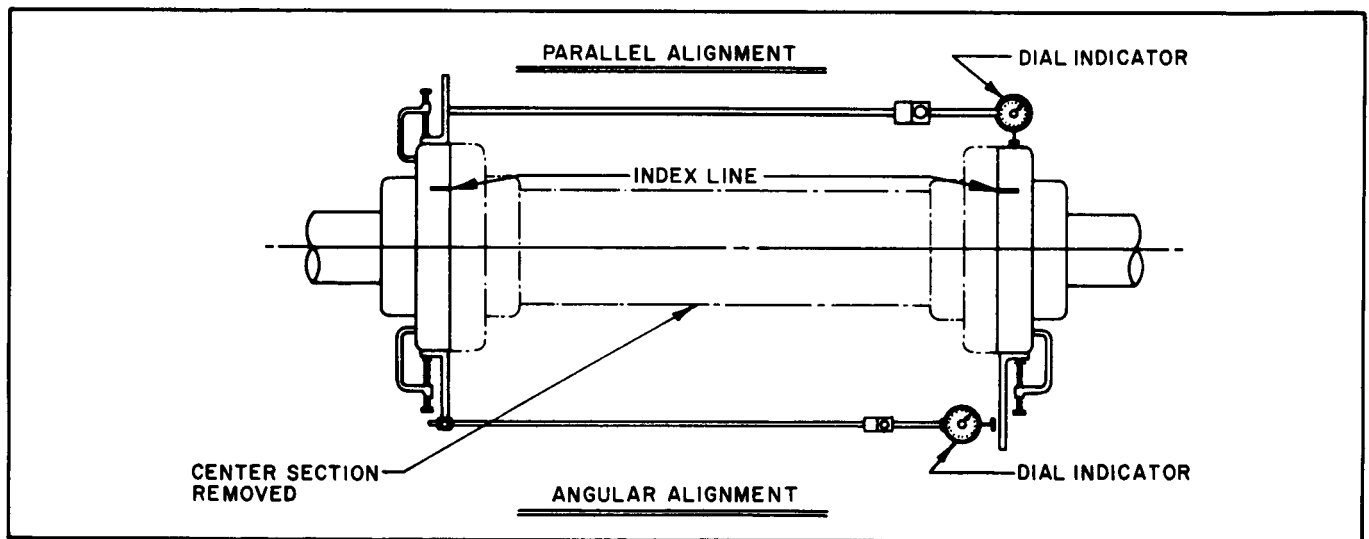

Figure 4. Checking Coupling Alignment
- b. Mount dial indicators as shown in Figure 4.